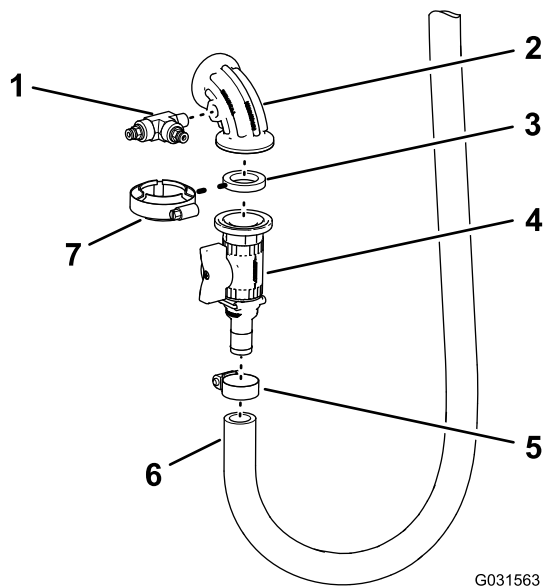

Figure 184
- Apply PTFE thread-sealing tape to the threads of the T-fitting (Figure 184) that you removed in step 3 of Disconnecting the Hoses and Tubing (page 13).
- Assemble the T-fitting into the 90° elbow with side port as shown in either Figure 184, and tighten the fitting by hand.
- Loosely assemble the 90° elbow with side port, gasket, and shutoff valve with the flange clamp (Figure 184).
- Assemble the barbed fitting of the shutoff valve into with the inlet hose and hose clamp (Figure 184) that you removed in step 4 of Disconnecting the Hoses and Tubing (page 13).